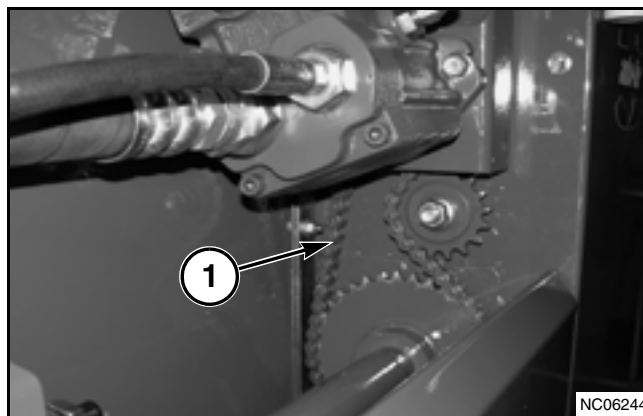

FIG. 25
FIG. 25: The pump drive chain (1) (if equipped) is an O-ring chain. Because of the O-ring seals, lubrication can only be added to the outside of the chain. Lubrication is only required to prevent the formation external rust.